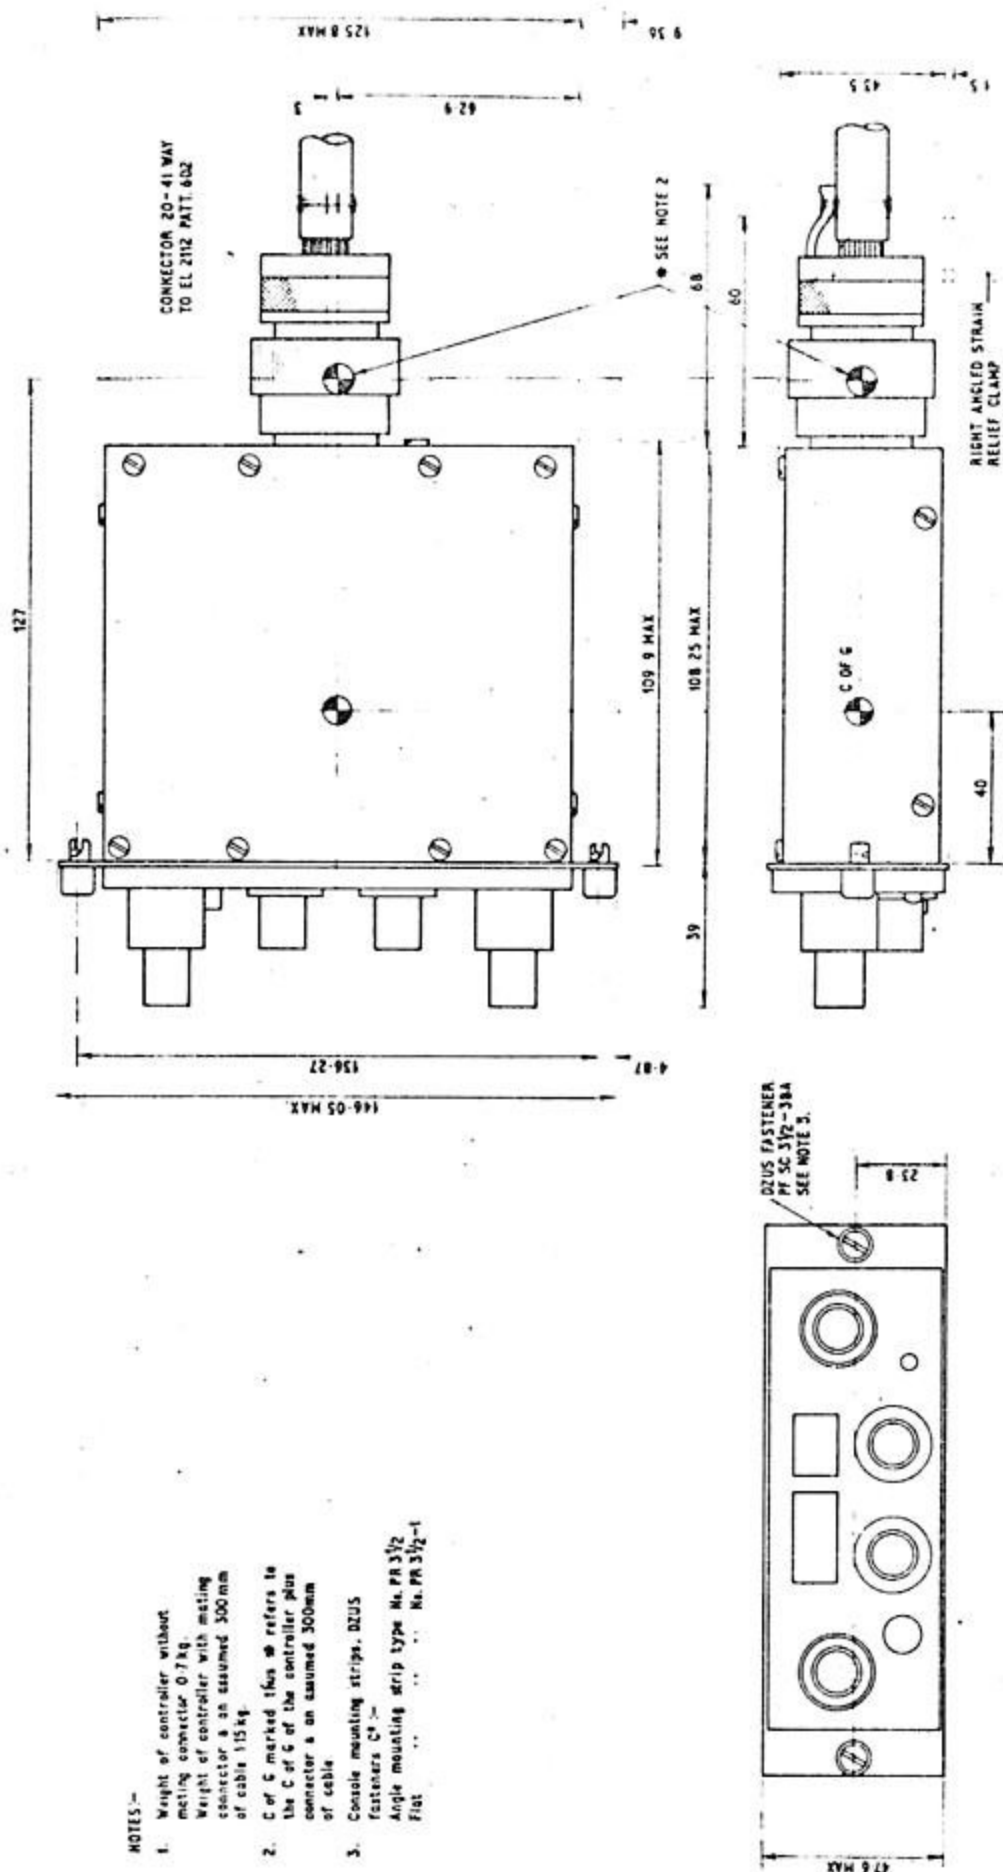

Fig.3 Control, radio station: physical dimensions
5. The dimensions of the control, radio station are 146 x 48 x 108 mm (excluding socket and control knobs), and its weight is 1kg (see Fig.3).